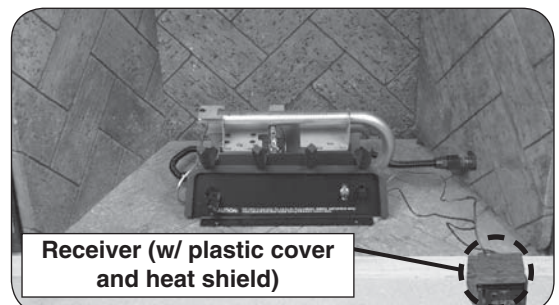

Fig. 16-4 Place remote receiver
4. **Place the remote receiver at the front right corner of the fireplace. Place as far from the burner system as possible.** See Fig. 16-4.
5. Place the plastic cover over the remote receiver with the open side facing forward to allow access to the receiver controls. Then place the decorative heat shield. See Fig. 16-4.